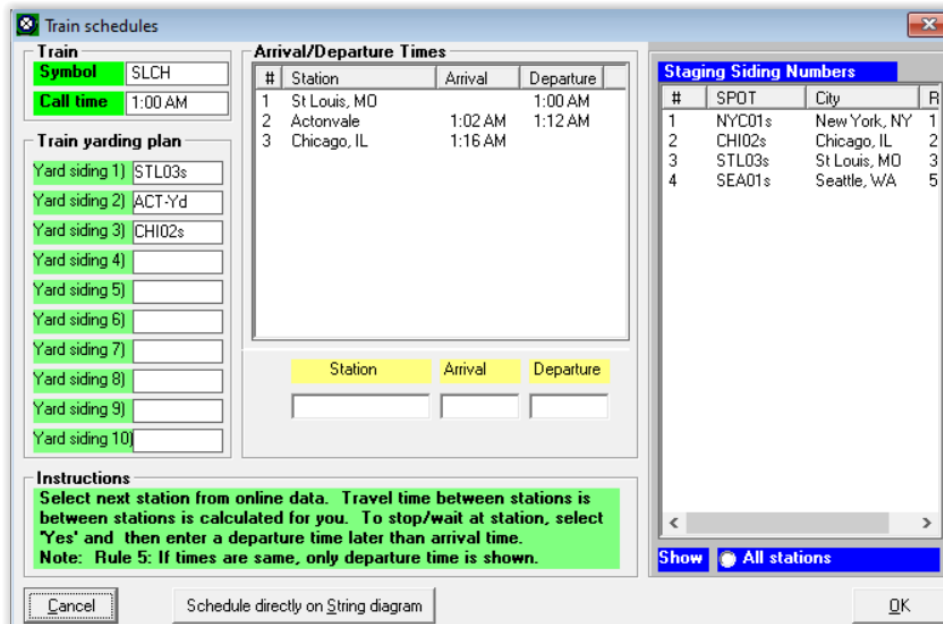

Figure 12-20
11. Back to the task at hand, change the time in the "Arrival" data field to 1:16 am then click on the "Save" button below the "Departure" data field. You should see the data in the "Arrival/Departure Times" window updated as shown in Figure 12-20.